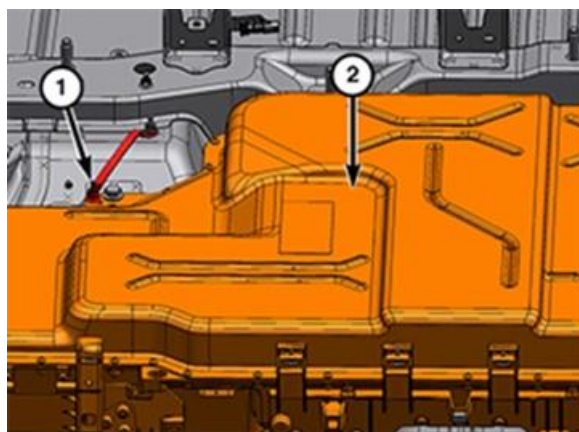

Figure 23 – HV Battery Fastener and Ground Cable
- 37. Remove the fastener (1) and the chassis ground cable from the HV battery (2) (Figure 23).
50. Install the chassis ground cable to the HV battery ground stud (1) and tighten to 9N·m (80 in. lbs.) (Figure 23).